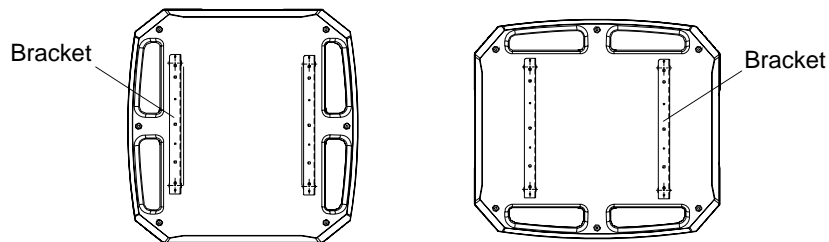
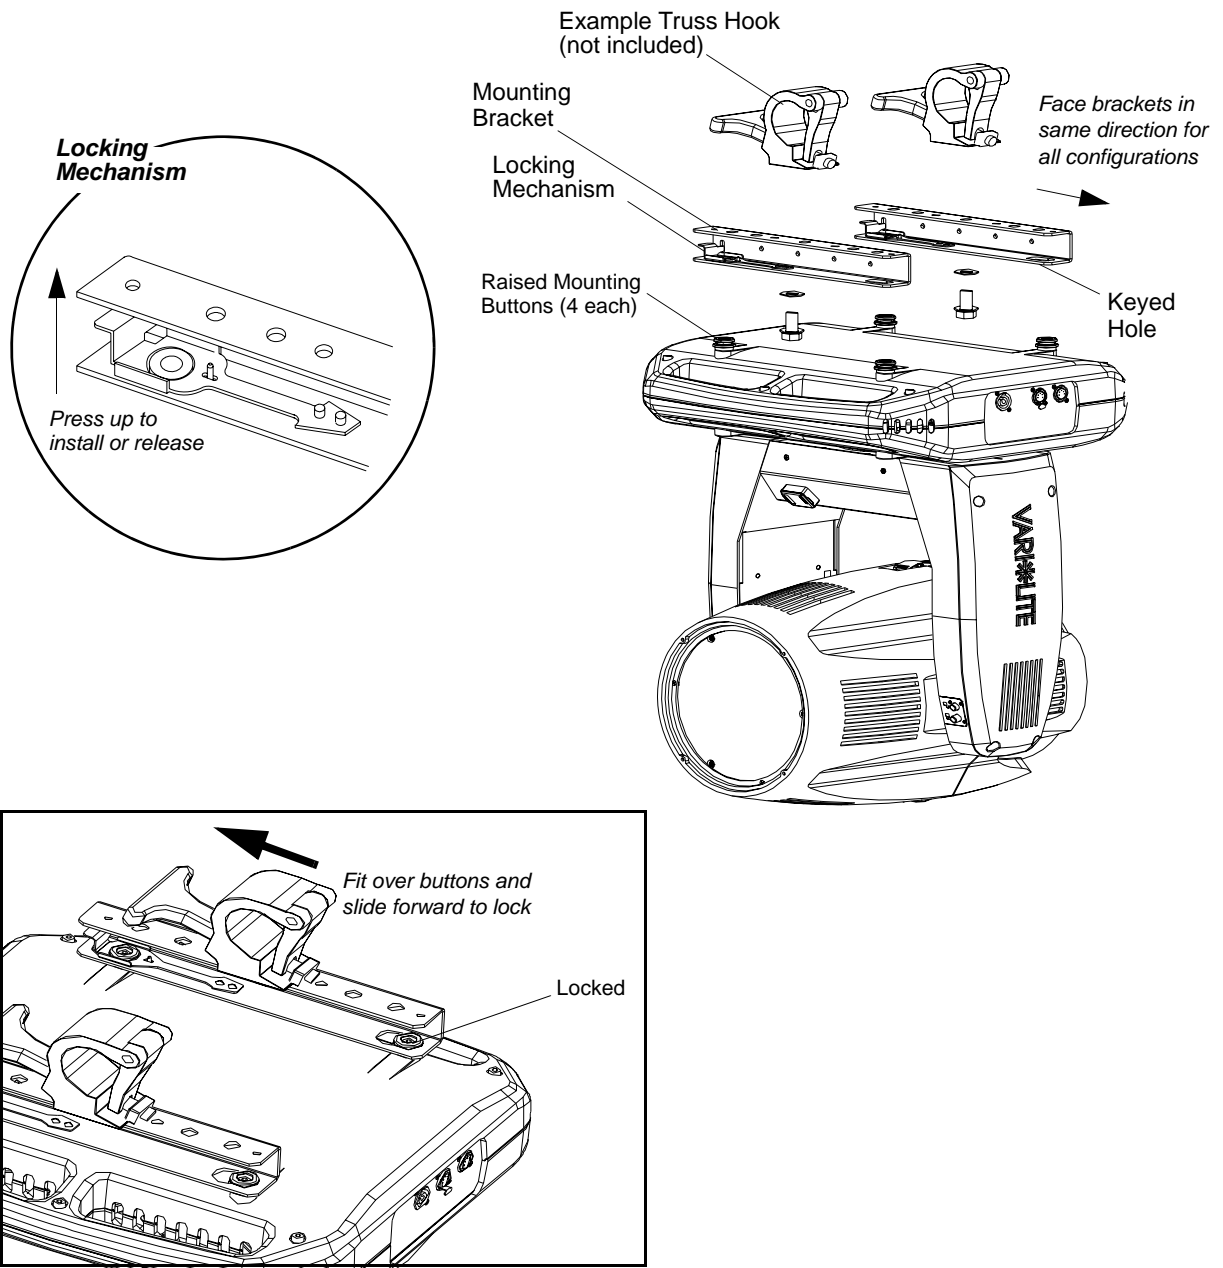

Figure 2-3: Bracket Orientation Options
Figure 2-4: Installing Brackets on Luminaire Enclosure
Step 2. Determine required configuration of bracket installation. Brackets may be installed in either orientation as shown in Figure 2-3, but both must face the same direction. Figure 2-4 shows bracket installation details.